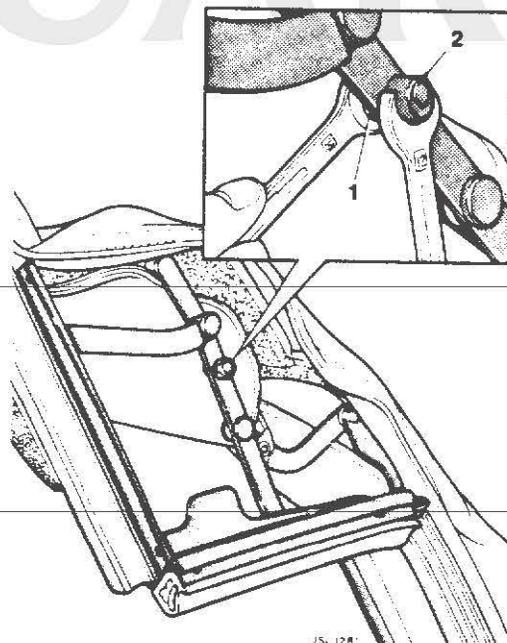

FIG 2
18. Slacken the retraction bar cam securing bolt (1 Fig 2) and rotate the cam (2 Fig 2) to increase/decrease the adjustment as necessary.